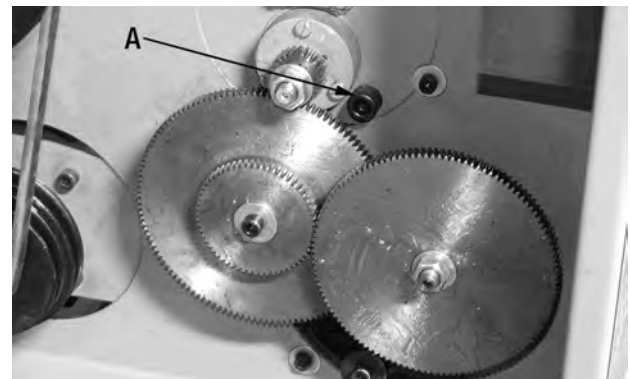
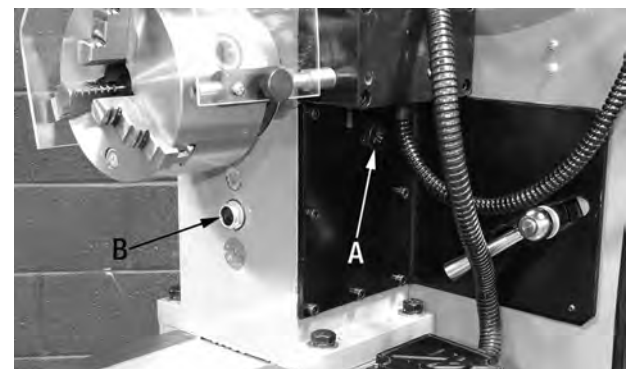

FIGURE 47
FIGURE 48
To remove the oil in the gear box, remove the change gear directly under the spindle, remove the cap screw (A) Fig.47, and place a can under the drain hole to collect the waste oil. Remove oil fill cap (A) Fig.48 and fill gearbox until the oil level reaches the centre point of the oil level (B).